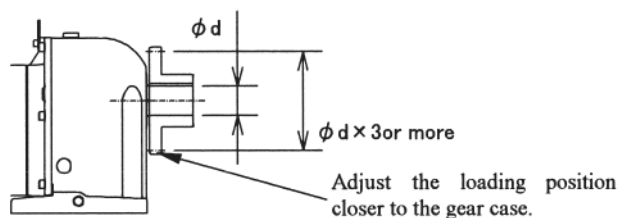

Fig.4 Sprocket position
- (3) To prevent damage caused by the overhang load, adjust the positions of the sprocket, gear, pulley, etc. so that the loading position can be closer to the joint of the output shaft and the gear case (refer to Fig.4).